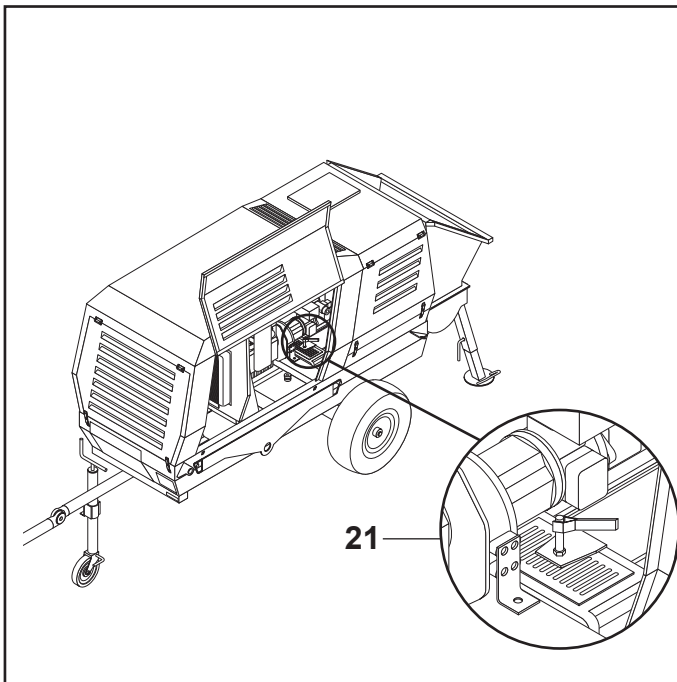

FIG. 34
- Make sure there is water inside the tank (FIG. 34-REF. 1).